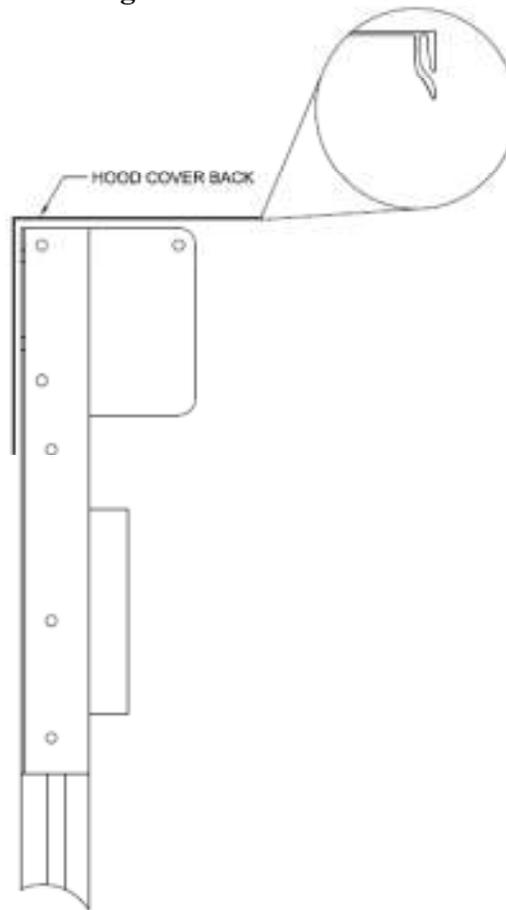
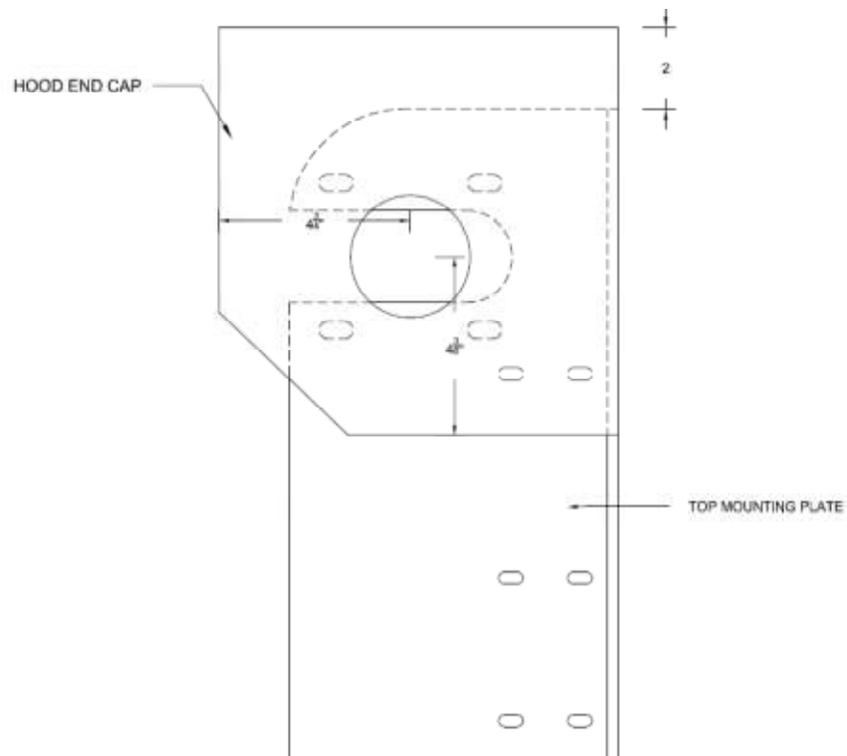

FIGURE 2
FIGURE 3
3. Gently pull the top of the tracks away from the wall until there is enough space to slide the back part of the hood in place. See FIG 2. For standard doors and FIG 3. For Large Doors.